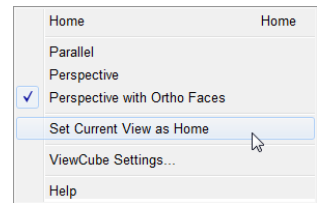

FIGURE 22-4:
- 10. In the large 3D viewport, right-click the ViewCube to display its shortcut menu and then choose *Perspective with Ortho Faces* (see Figure 22-4).**